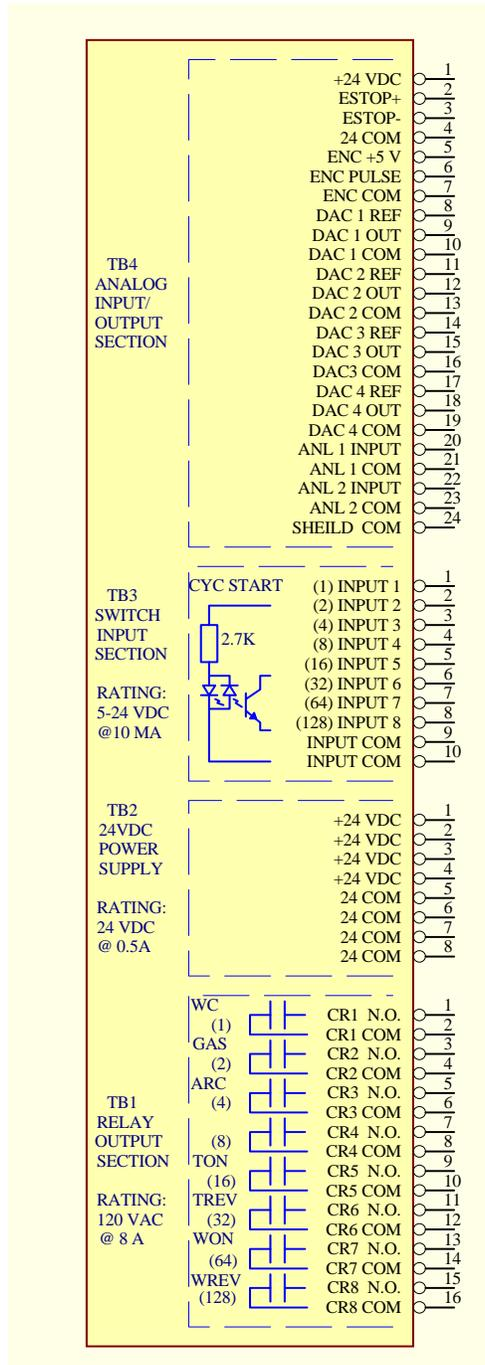

Figure 6-1
Figure 6.1 shows the electrical connections provided by the WRC-1000 control enclosure. The WRC has four (4) terminal block assemblies that allow the user to interface to external hardware. The terminal blocks are grouped based on control functions.